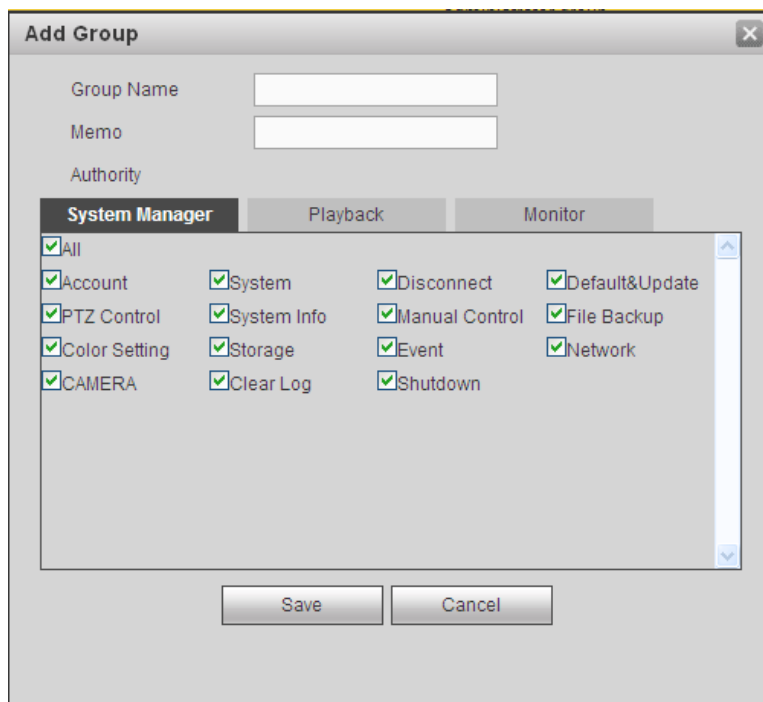

Figure 5-110
**Add group:** It is to add group and set its corresponding rights. See Figure 5-110. Please input the group name and then check the box to select the corresponding rights. It